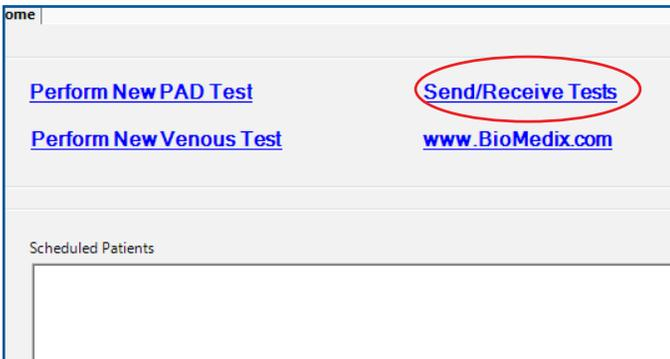

FIGURE 2.16 - Home Screen - “Send/Receive Tests”
1. From Main Menu or Home screen, click “Send/Receive Tests” (Figure 2.16).